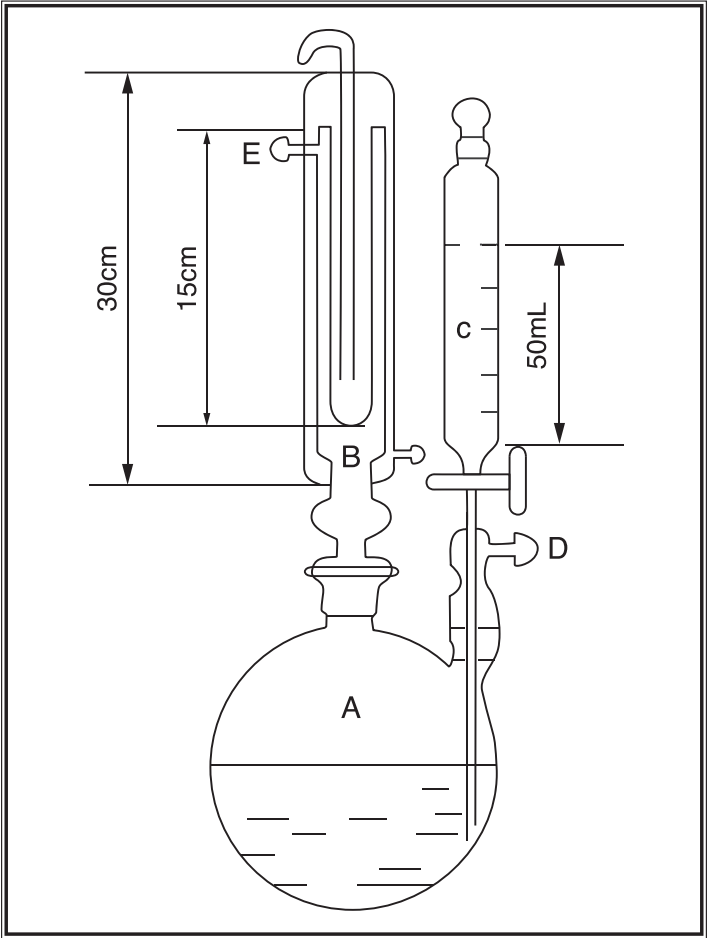

Figure 1 Apparatus for the determination of sulphur dioxide residues
**(5) Apparatus**
The apparatus (Fig. 1) consists of a 1000-mL round-bottomed flask with two standard tapered joints (diameter 29 mm and 24 mm) (A), a reflux condenser (B), a graduated 50-mL separating funnel (C), inlet for nitrogen gas (D) and outlet for sulphur dioxide gas (E). The apparatus should be cleaned before use and all the joint of apparatus should be tightly sealed during use.